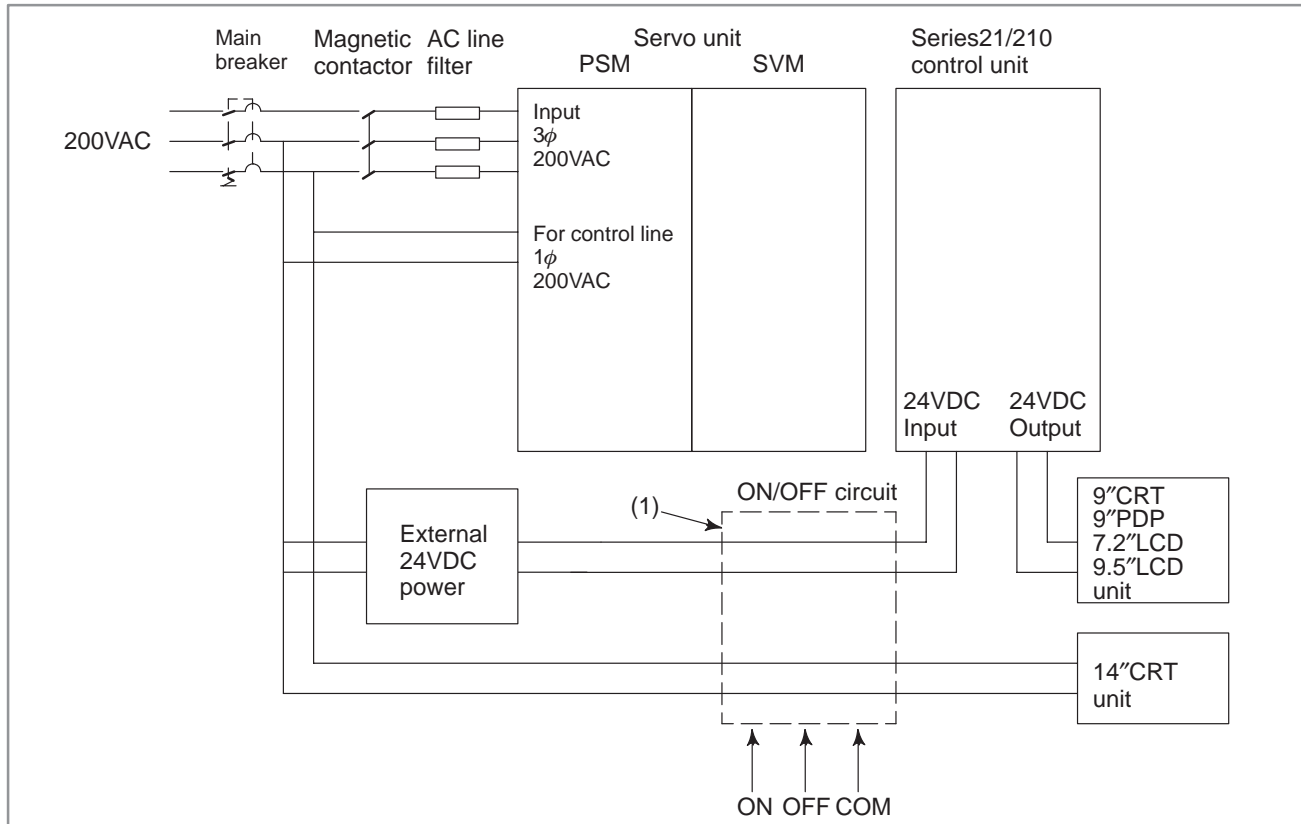

Fig.4.2.1 (a)
Install a power switch at (1) in Fig. 4.2.1 (a).